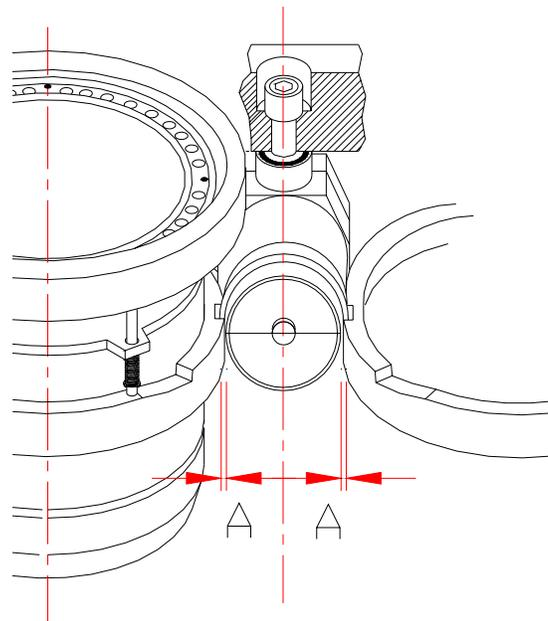

Fig. 16
The unloader mechanism for each bank of cylinders (Fig. 16) which are designated to be unloaded consists of the following components, operating piston assembly (secured to the casing), cam ring, pins with springs and stop ring (assembled on the liner). Oil pressure is fed via external piping from the pump to a 'tee' connection, the return line to the casing is via a solenoid and the supply line to the piston assembly is via a restrictor and a tapping. When a 'load' signal is generated a solenoid will close and oil pressure is fed via the restrictor to the piston assembly, over coming internal piston spring pressure to force the piston off its seat. This provides rotational movement of the cam rings, lowering the cam pins to enable the suction plate to lower on to its seat, which ensures that the only passage open for the compressed gas is to 'discharge'. Conversely when an 'unload' signal is generated a solenoid will open and provides a passage for oil in to the crankcase. Internal spring pressure in the piston assembly forces the oil out, through the restrictor and open solenoid in to the crankcase, enabling rotation of the cam ring, raising the cam pins thereby allowing recirculation of the refrigerant gas around the head assembly.
- d) Place a locally manufactured tool, (0.0393in. 1mm thick steel sheet) between the working plate and the cam ring (Fig. 16) dimension 'A' to obtain the correct clearance on the installed liner cam ring.